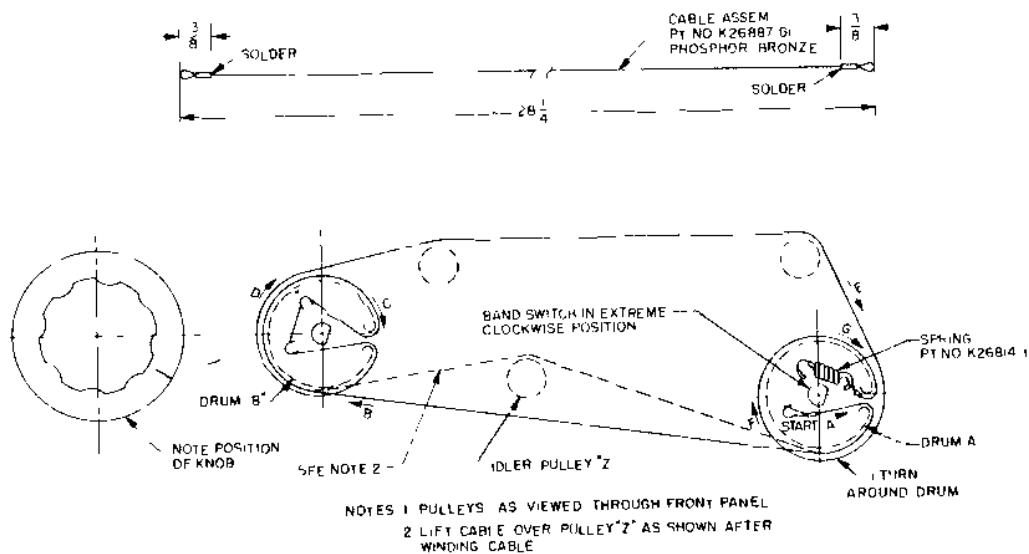

Figure 9. Restringing the Band Selector Mechanism
1. Refer to Para. 6-4, item 1 for front panel removal.
2. Make up band selector cable as shown in figure 9.
4. Place the loop end of the cable over pin 1 on drum "A". Following the lettered sequence shown in figure 9, string the band selector switching cable and anchor the spring over pin 2 on drum "A".
5. Check drum "B" for proper BAND SELECTOR indexing if index is off. Slip drum "B" through cable until correctly aligned. Clinch the cable under pin 1 to secure the cable positioning on the drum. Lift the cable up over idler pull "Z" as shown in figure 9.